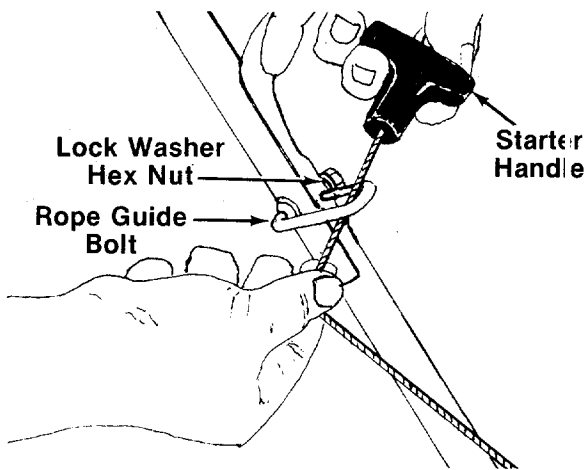

FIGURE 19.
12. Slip the starter rope into the rope guide bolt as shown in figure 19. If more slack is needed in the starter rope, disconnect and ground the spark plug wire. Depress the blade control handle and pull additional rope out from the engine.